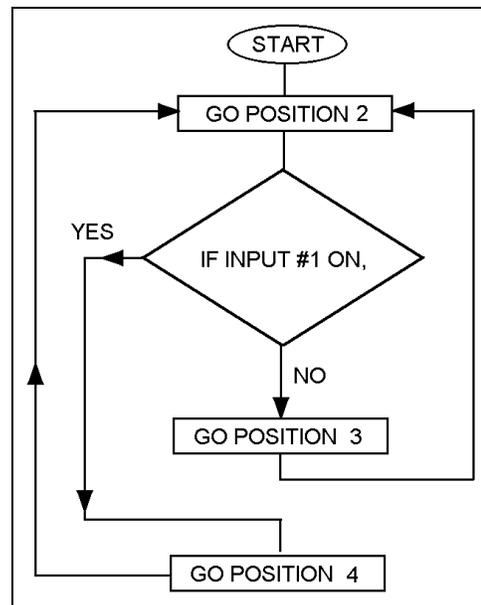

Figure 15-1
- 1 Write and run a program which will perform the routine shown in Figure 15-1.